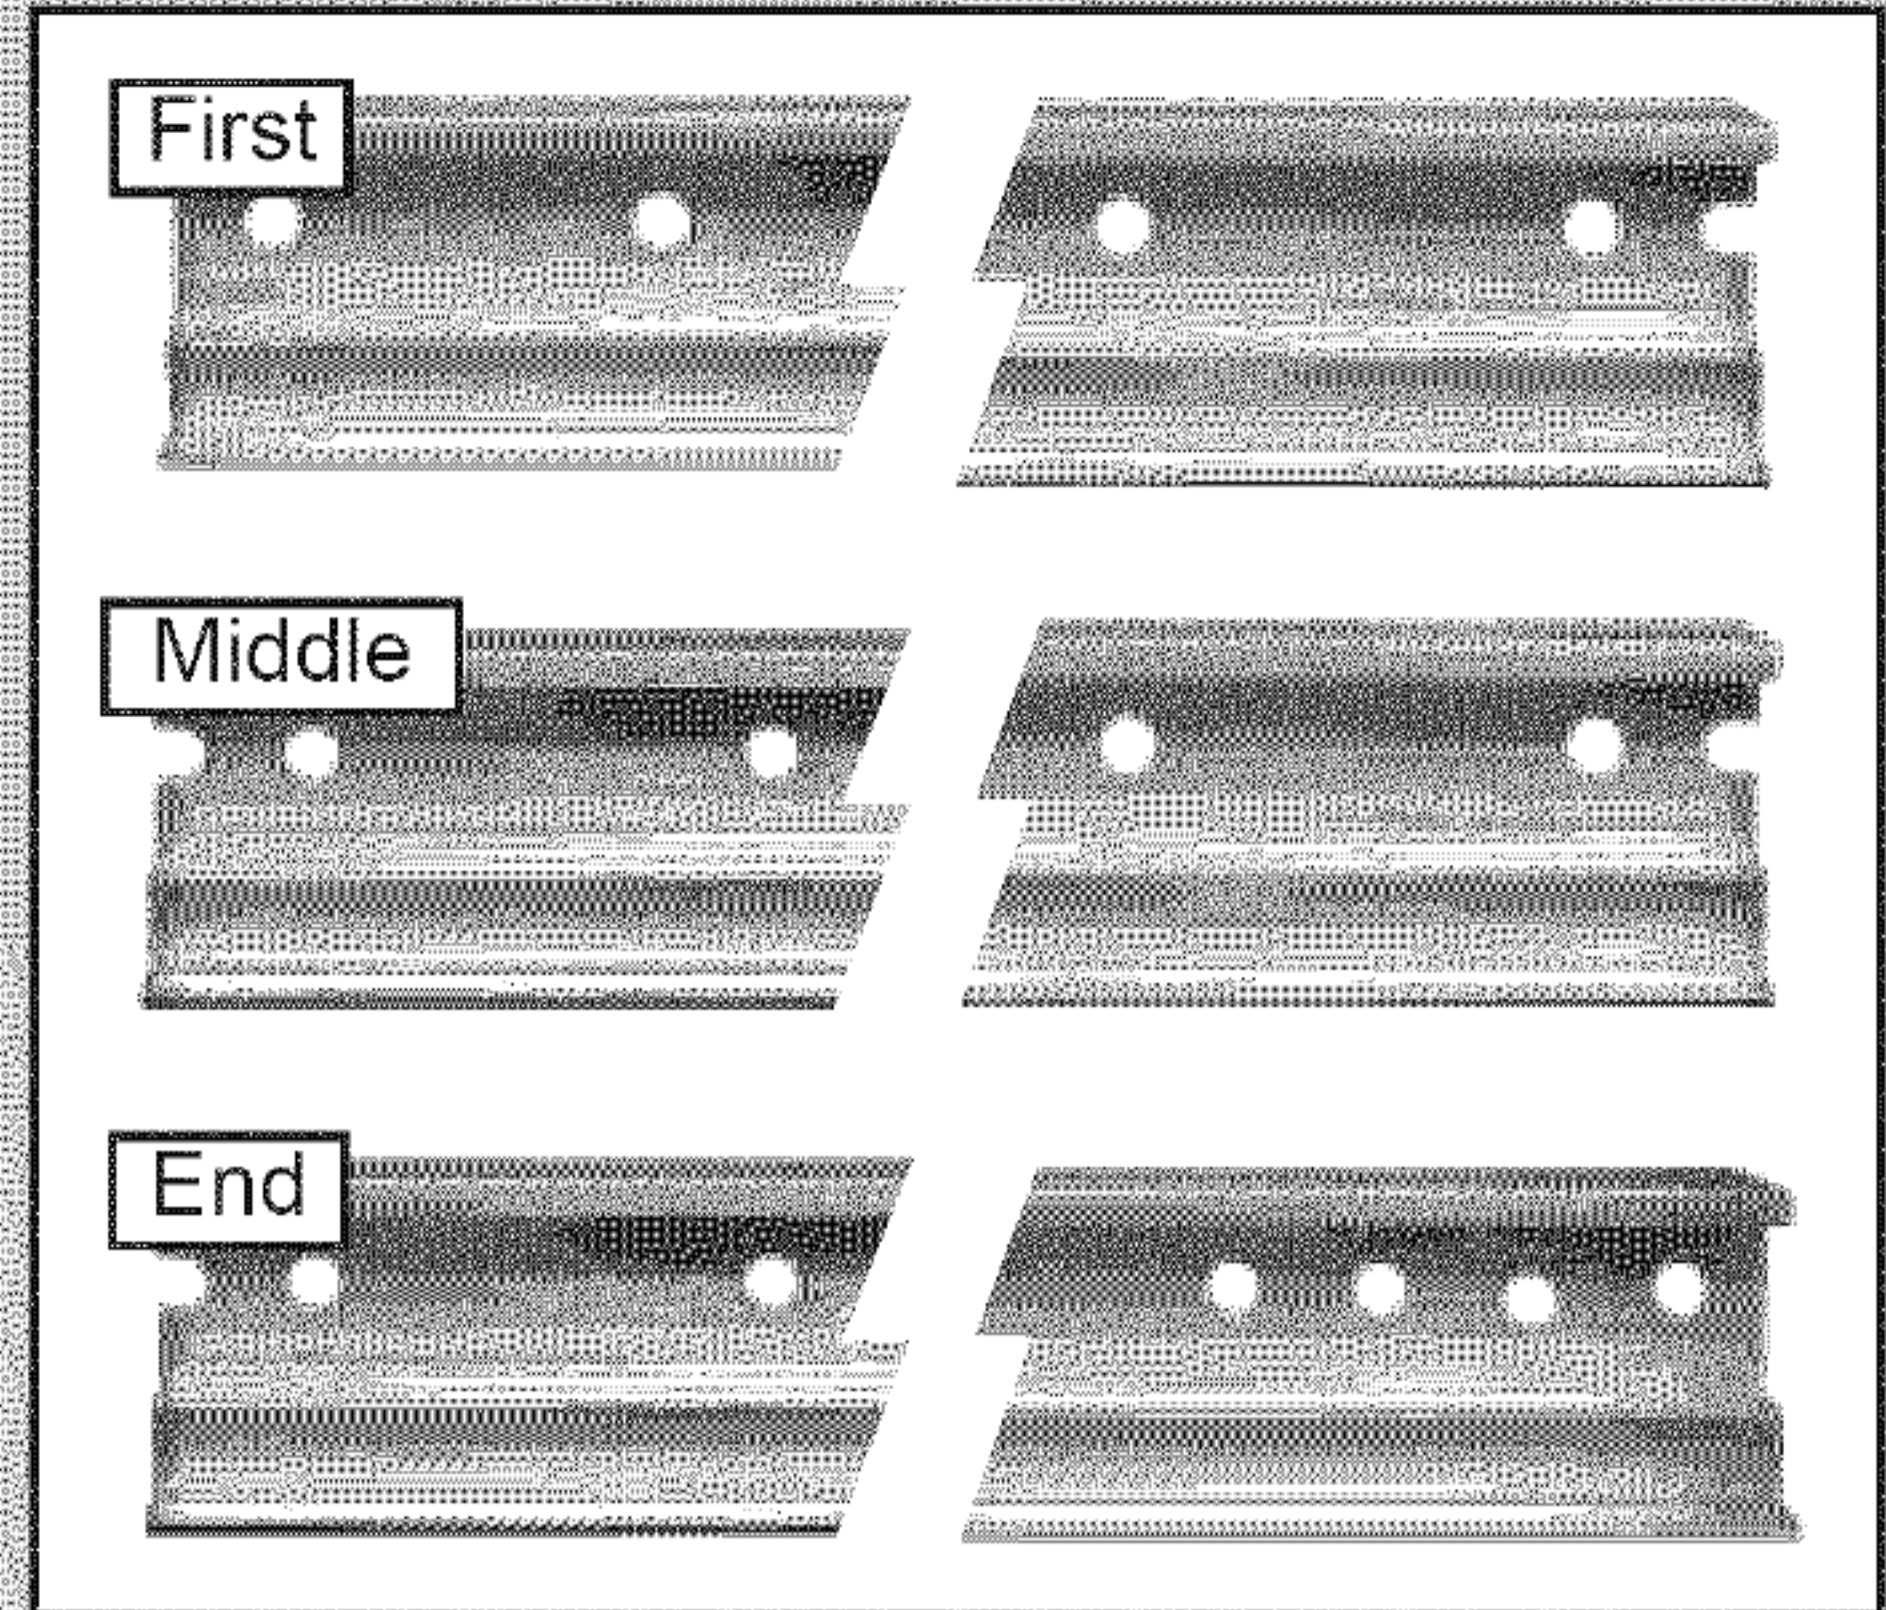

FIG. 1-1 Rail sections.
**1. Identify the rail sections (Fig. 1-1).**